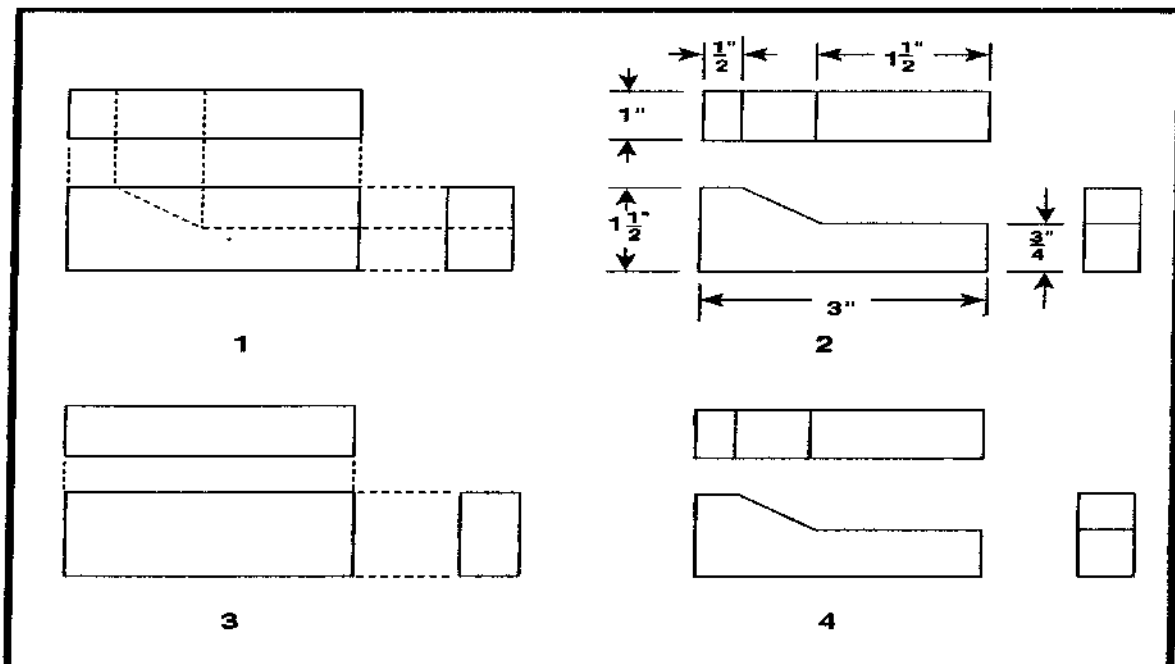

Fig. 3.6. Sketches.
23. (Refer to fig. 3.6) What are the proper procedural steps for sketching repairs and alterations?